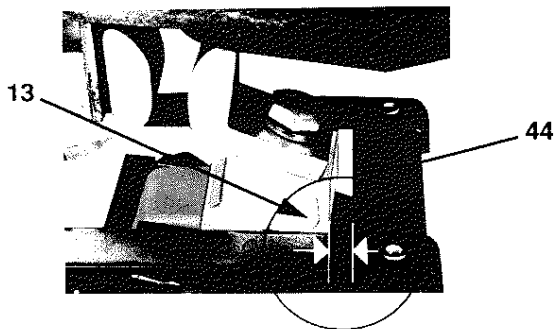

Figure 4 Contact Arm Gap
Refer to Figure 4 when adjusting the mechanical interlock.
1. Remove all power. Visually verify that the mechanical interlock allows the contact arm (item 22) of either contactor to reach its limit of travel without binding, either completely open or completely closed.
2. Hold the contact arm of the left contactor fully closed and push closed the contact arm of the right contactor until it is stopped by the mechanical interlock. With new contact tips, check that there is a gap of at least $1/32$ " but not more than $1/16$ " between the inside edge of the stop bracket (item 44) and the back surface of the auxiliary arm (item 13) (see Figure 4).